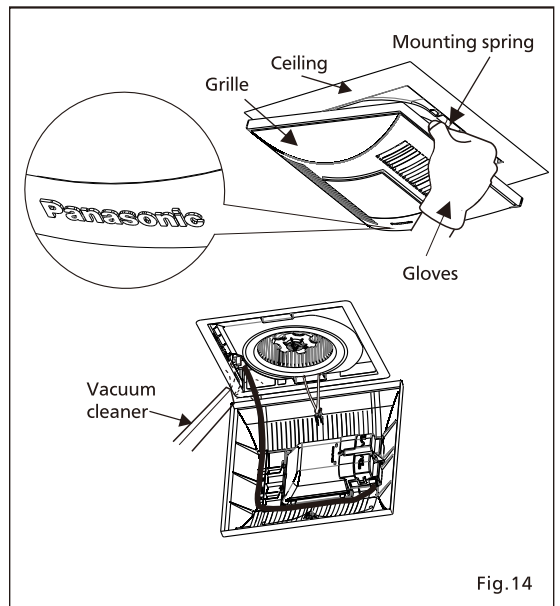

Fig. 14
3. Remove grille by pulling down the mounting spring in the right side of "Panasonic" logo. Remove dust and dirt from fan body using a vacuum cleaner. (Fig. 14)